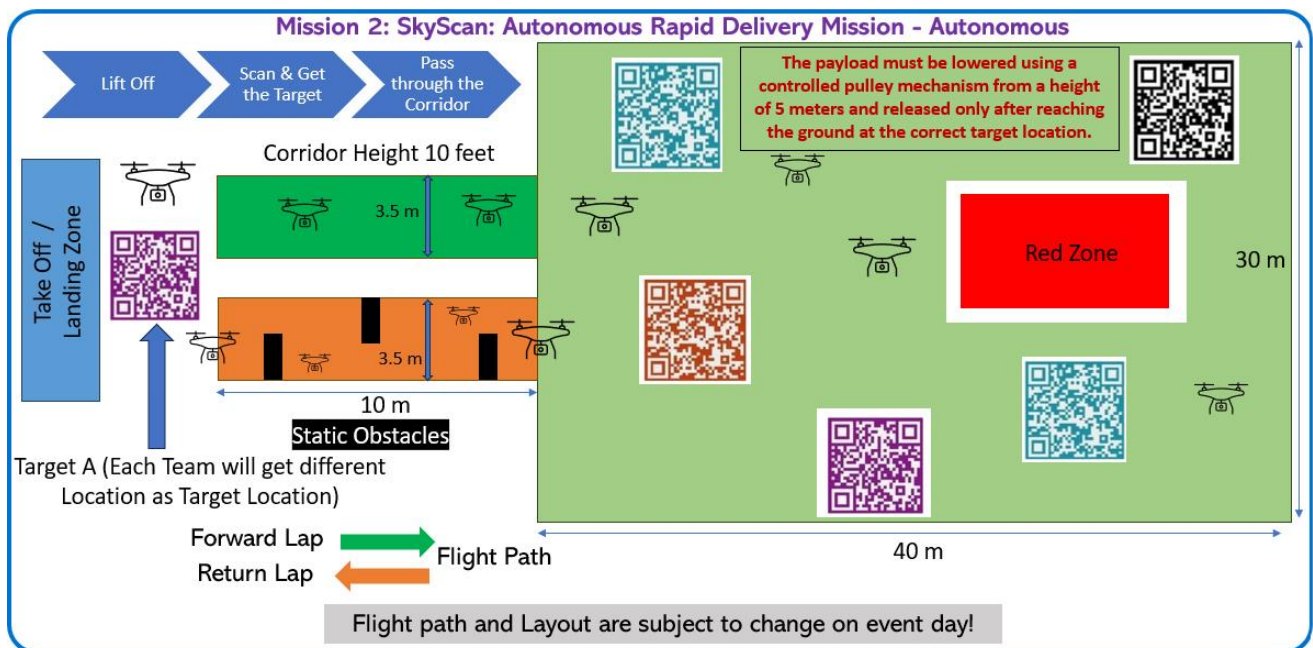

Figure 3 - Flight Mission 2 – Autonomous Mission Profile
- Returns through the corridor and land safely at the take-off point. Please refer to Section 5.6 for detailed scoring criteria. The course for autonomous operations is shown in Figure 3; however, field conditions may vary.